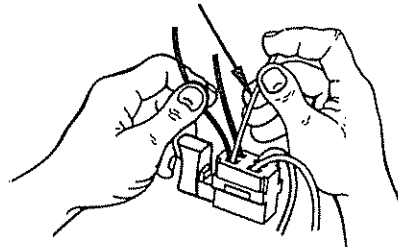

Fig. 12
4. Remove leads from switch by inserting a 1/32" diameter nail or pin into switch lead receptacle as shown in figure 12 and pulling on the lead. Remove nail or pin with a twisting, pulling motion.
5. Make sure grommet (D) is on cord, then make lead connections to the new switch. Push each lead as far as possible into proper receptacle in switch. Pull on leads to check lead connections with lead receptacles.
7. Make sure grommet (D) is in place and replace handle cover and screws.